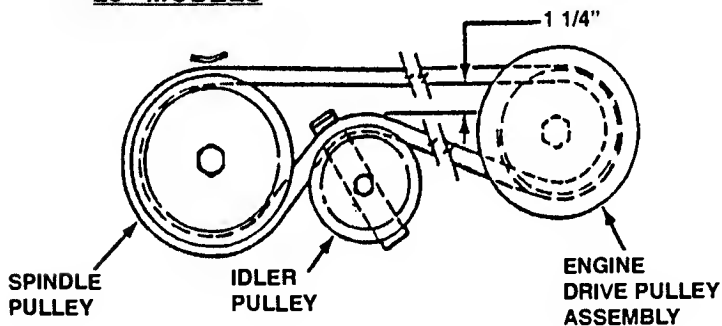

FIGURE 3.4
- Measure the belt spacing at idler pulley. See Figure 3.4. The belt spacing should be 1 1/4" but no less than 1".